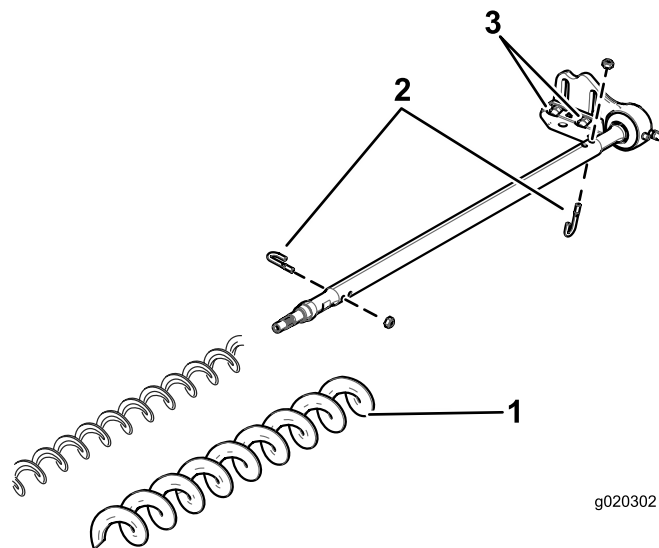

Figure 32
3. Remove the 2 J-bolts and nuts (Figure 32).
4. Slide the existing brush off the brush shaft (Figure 32).
5. Loosen the 2 bolts, washers, and nuts securing the drive bearing housing to the bearing housing mounting bracket (Figure 32).
6. Slide the high height of cut brush onto the brush shaft (Figure 32).
7. Clamp the brush onto the shaft with the 2 J-bolts and nuts previously removed (Figure 32).